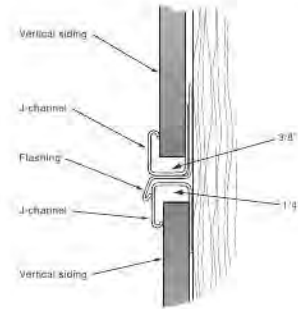

Fig. 1
**Special note for vertical panel installation:** Vertical panels should be cut to allow clearance as specified. Panels should be positioned on wall allowing equal clearance top and bottom. One fastener should be placed at the top of a nail slot within the upper 12" of the panel when installed. The panel will hang on this fastener and will expand in both directions rather than only upward. Balance of fastening should take place in the center of the nailing slots (Fig. 1).